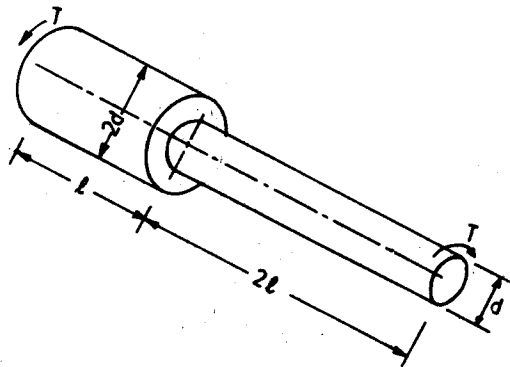

Fig. 32
71. The total angle of twist of the stepped shaft shown in Fig. 32 is equal to